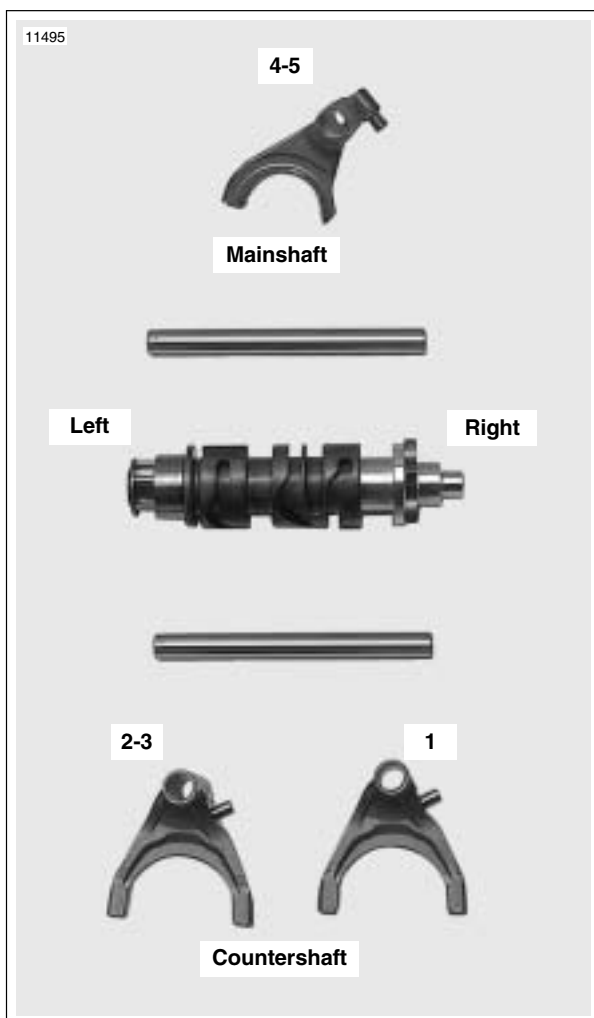

Figure 6-89. Shifter Forks, Drum and Shafts
- See Figure 6-89. Shifter design allows for one common part number for both countershaft shifter forks. As the transmission runs, each shifter fork develops a certain wear pattern with its mating parts. For this reason, it is important that each shifter fork be reinstalled in its original location.